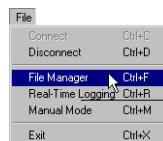

Figure 4-3. File->File Manager
3. Click **File->File Manager** (Figure 4-3).
3. Click **File->File Manager** (See Figure 4-3 on page 4-8.)